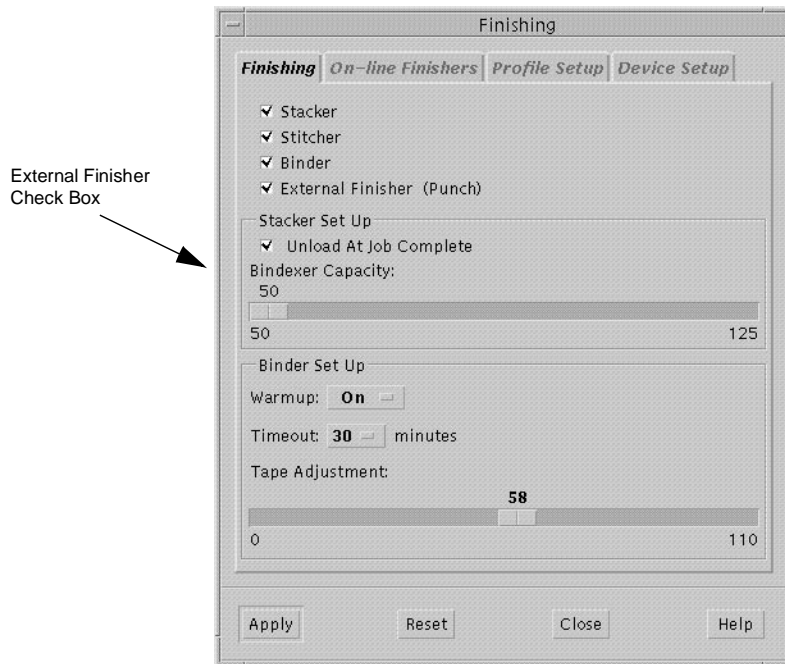

Figure 6-22 Finishing screen in the Finishing Window
The **Finishing** screen displays, as shown in Figure 6-22.
10. Ensure that the External Finisher Checkbox is checked and the name of the device appears in parentheses to the right of External Finisher, as shown in Figure 6-22.